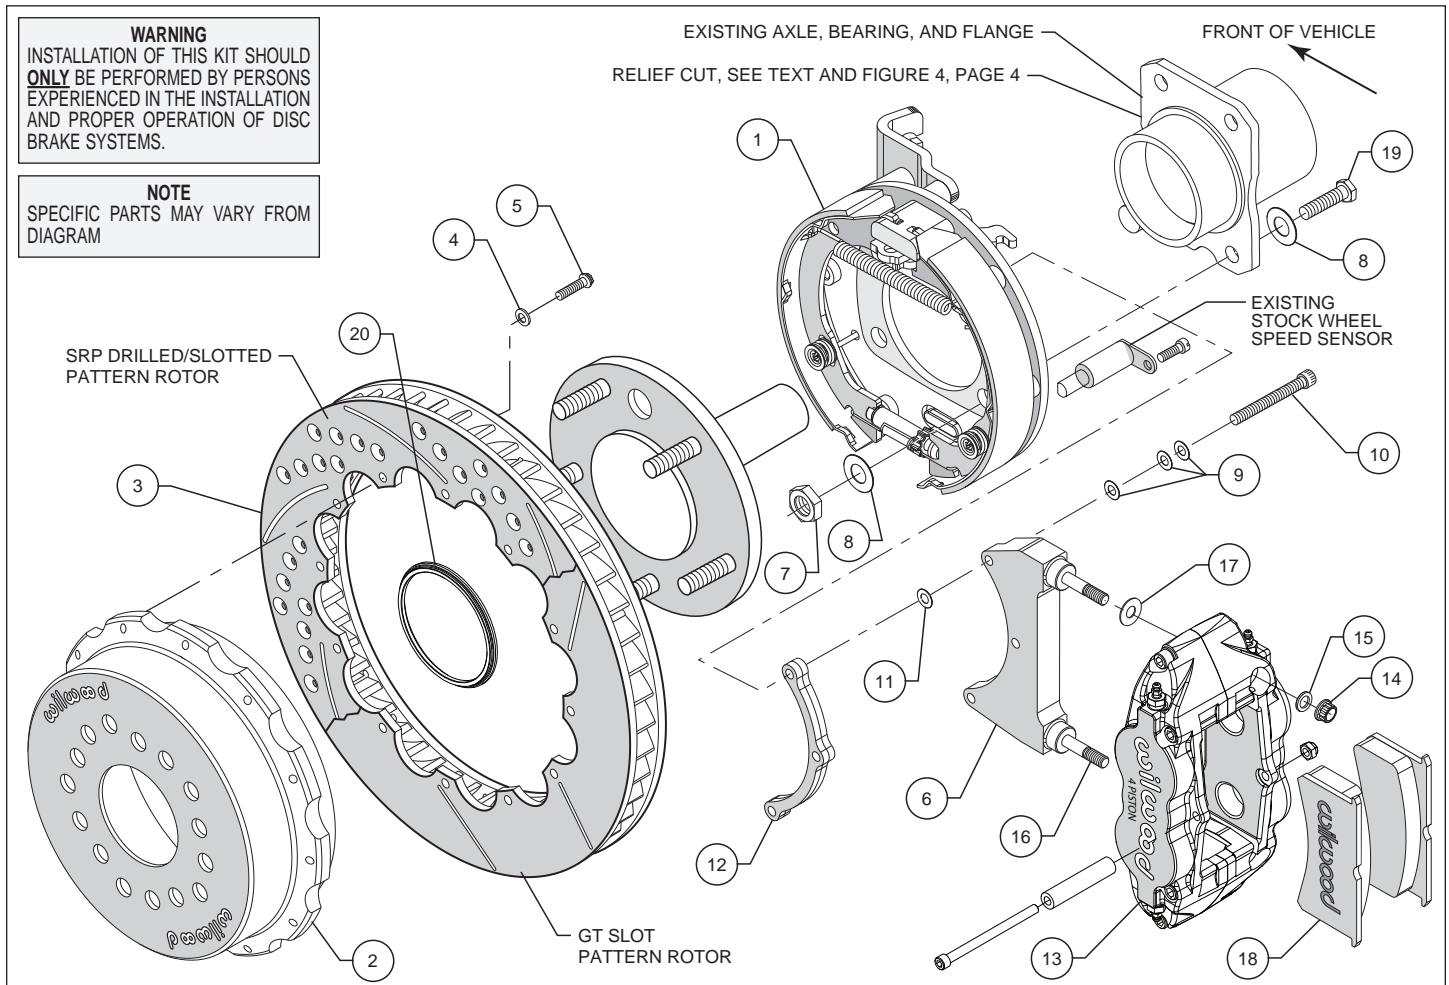

Figure 1. Typical Installation Configuration
- Slide the rotor registratikon adapter (20) onto the axle register on the axle flange with the smaller O.D. facing toward the rotor/hat (2). Align the correct hole pattern in the hat with the stud pattern on the axle flange. **NOTE:** Some OEM and aftermarket axles come with stud sizes larger than 0.50" diameter. Verify stud size and have a qualified machine shop drill the hats to the correct size, if necessary. Slide the hat/rotor assembly (2 and 3) over the wheel studs covering the bracket kit assembly (1) and against the axle flange face. Check to be sure the hat seats squarely against the hub. Install a couple of lug nuts (finger tighten) to keep the rotor/hat assembly in place while continuing with the installation.
- NOTE:** Please reference the caution statement at the beginning of the assembly instructions. The caliper mounting bracket assembly (6) should be installed first with clean, dry threads on the mounting bolts (10). Install the bracket from the rear side of the bracket kit assembly (1) by sliding bolt (10) through three flat washers (9), bracket (6), shim washer (11) and finally through the spacer (12), see Figure 1. **NOTE:** End of bolt should not exceed inside face of insert. The bracket must tighten squarely against the back side of the bracket kit assembly (1). Inspect for interference from casting irregularities, machining ridges, burrs, etc. Use one thin shim (11) between the bracket (6) and spacer (12) during initial trial fitting.
- Install one shim (17) over each pre-installed stud (16) on the radial mount bracket (6). Slide the caliper (13) in place over the studs and rotor, then install the washer (15) and lock nut (14) to hold the caliper in place. The caliper bleed screws should be pointing up. Snug the lock nuts (14) and check that the rotor (3) is centered in the caliper (13). Add or subtract .015" shims (11) as necessary between the caliper mounting bracket (6) and the spacer (12) to center the caliper (13).
- Remove the caliper center bridge pad retainer bolt, nut, and tube from the caliper. Slide the brake pads (18) into place. They should install easily without interference. Check that the outside radius of the brake pad is aligned with the outside radius of the rotor. Add or subtract shims (17) between the caliper (13) and mount bracket (6) to gain the proper alignment. Reinstall the center bridge pad retainer tube, bolt, and locknut. The locknut should be snug without play in the bolt or tube. Be cautious not to over tighten.
- Adjust the parking brake shoes outward (using a drum shoe adjustment tool available at your local auto parts store) while turning the hat (2) until a slight drag is felt against the hat/drum. Remove the lug nuts that were holding the hat/rotor in place. Install the wheel and lug nuts. Check to see that the wheel rotates freely without interference.
- Once all clearances have been checked, remove the wheel, caliper, hat/rotor from the bracket kit assembly (1). Secure the caliper mounting bracket (6) to the bracket kit assembly (1) using red *Loctite*® 271. Torque bolts (10) to 180 **in-lb**. Reinstall the hat/rotor assembly and again use lug nuts to hold it in place. Lubricate caliper mounting studs and nuts with lightweight oil, reinstall the caliper, torque the caliper nuts (14) to 30 ft-lb.